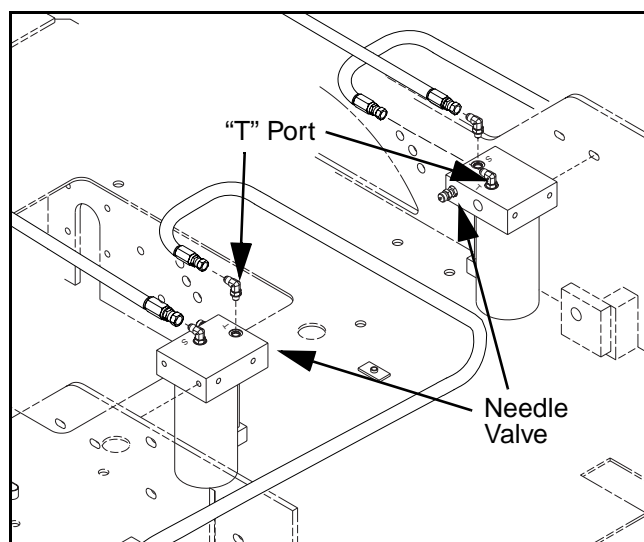

Figure 6 - 22 Adjusting steel track tension
- 1) Disconnect the line from the "T" port on the track tension cylinder. Install a plug into the disconnected line. (Figure 6 - 22)